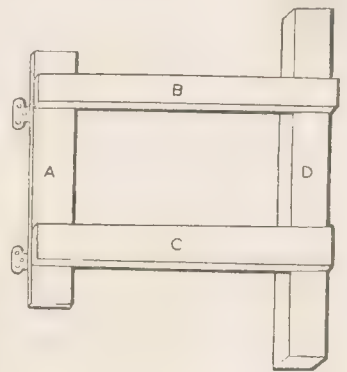

Fig. 5—One of the gate legs with hinges
The detail at Fig. 5 shows the construction of the gate-leg. The cross-pieces (B) and (C) should be nailed on behind the plank (A). Piece (A) should be several inches shorter than the table leg (D) so it will not touch either floor or underside of the table. (D) should, of course, be exactly the distance of the flap from the floor.